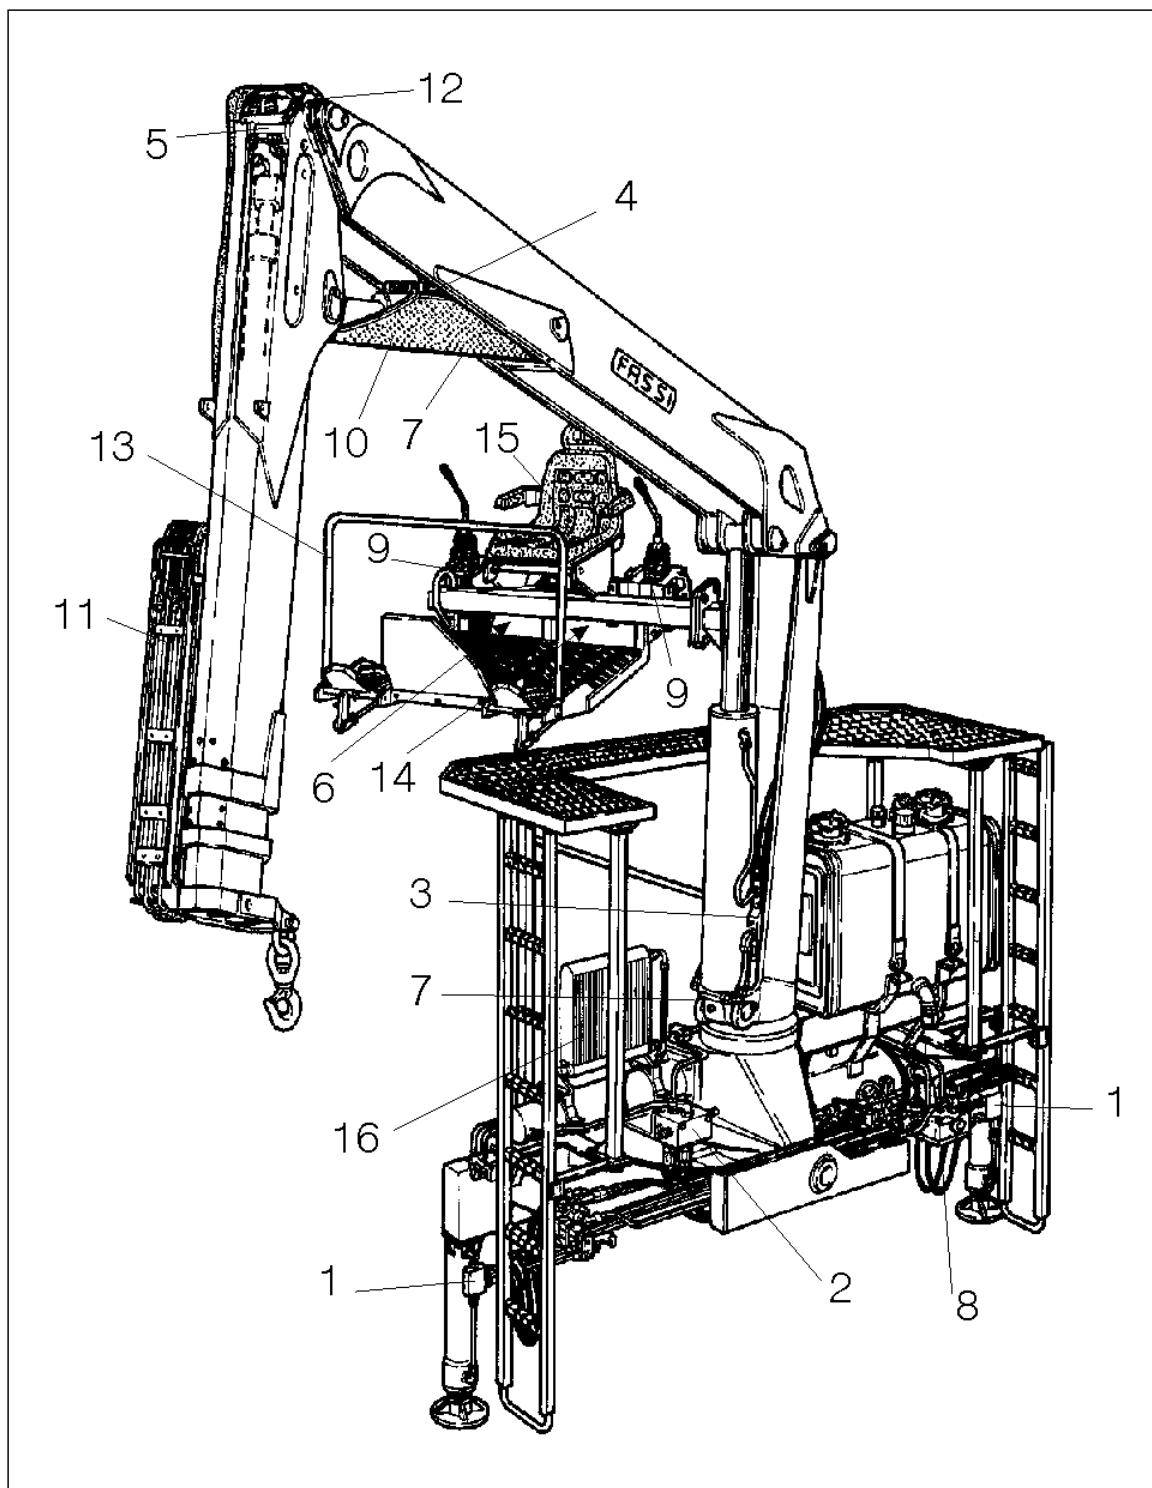

fig. 3
**SAFETY AND PROTECTION DEVICES** (fig. 3)